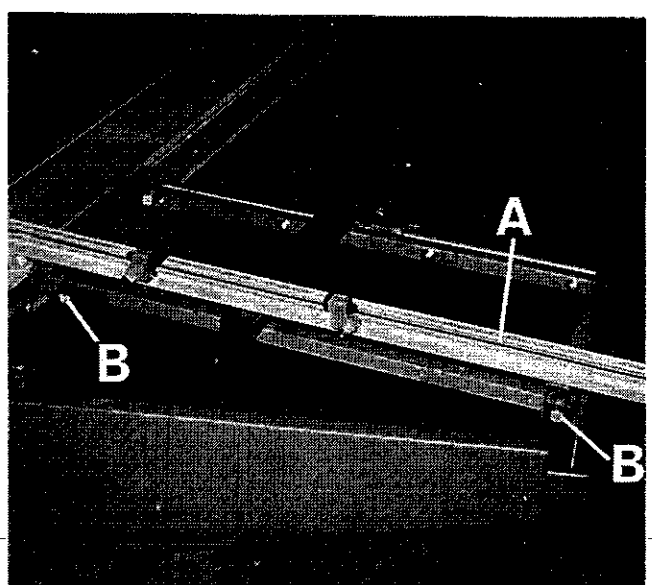

FIG. 7.
The crosscut fence is fitted to the rear of table and is accurately located in hole at inner end and hole at outer end of extension table secured by 2 handwheels as shown in FIG.7.
1. Locate spigots on bottom of fence into the 2 holes in extension table and position crosscut fence "A" as shown in FIG.7.